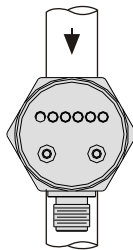

Fig. 4
- (4).Please assure that SP is mounted tightly to prevent leakage. SP could be mounted on the pipe at any orientation, but the best sensitivity and fastest response will be realized at orientation shown in Fig. 4.
- (5).If there are any particle exists in the fluid, please install a suitable filtering element at the upstream of SP to prevent contamination on the probe of SP.